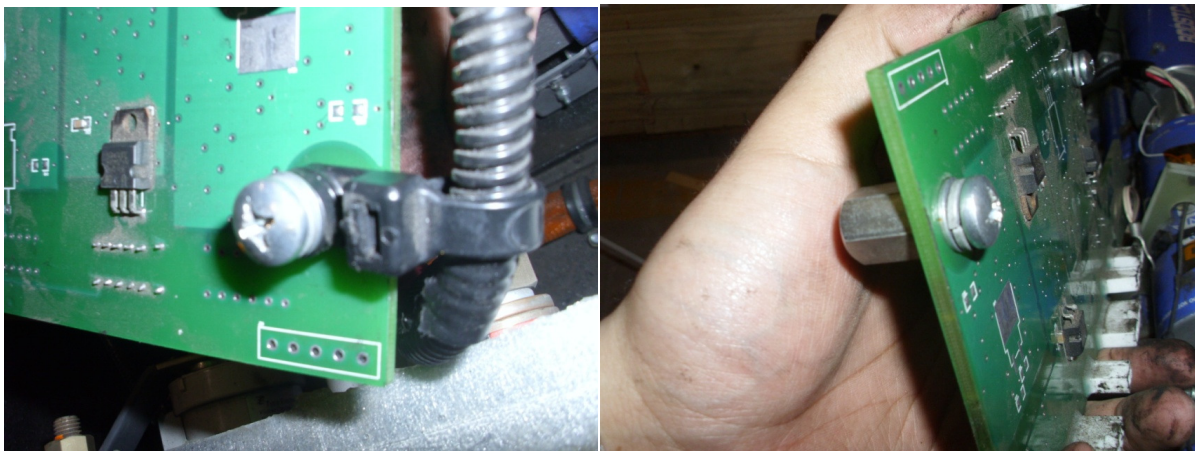

Fig 13 – Removed cable tie
- f. Remove the cable tie holding the relay harness to the board by removing the hardware securing it. Refasten the hardware after removing the cable tie. See Fig 13.